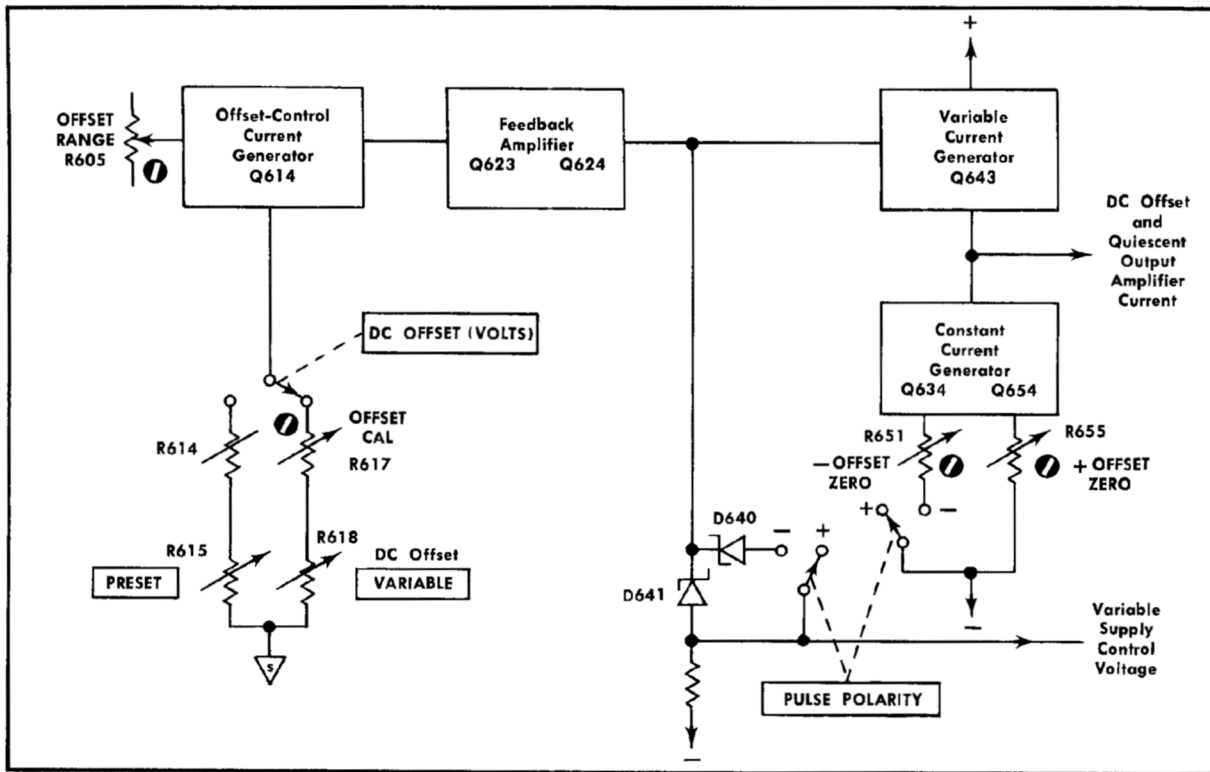

Fig. 3-10. Block diagram of the Offset current generator.
**Offset Current Generator.** The offset current generator produces DC current varying from —85 mA to +315 mA, part of which provides quiescent operating levels for the output amplifier and part of which causes varying shifts in the DC level of the output pulse. This current generator consists of variable voltage reference circuit Q614 (see Fig. 3-10), unity-gain feedback amplifier Q623 and Q624, variable cur-